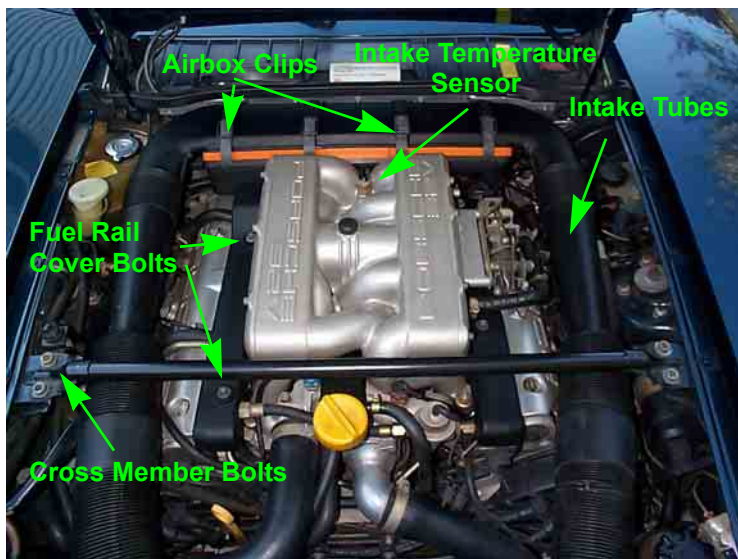

FIGURE 1
- d. Remove the fresh air induction components. *See Figure 1.*
- h. Remove the insulated fuel rail covers. See *"Figure 1" on page 3*.